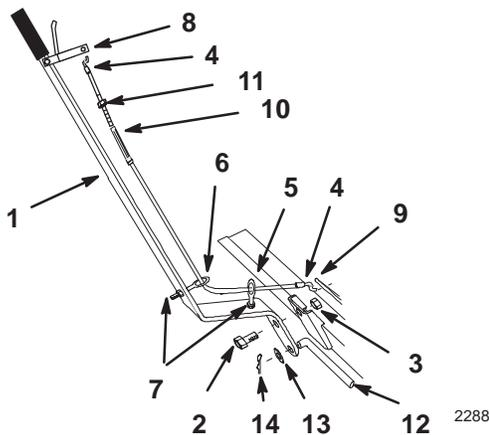

Figure 3
- Attach index lever to frame bracket with 1/2 x 1" bolt and 1/2" nut (Fig. 3).
- Install eye bolt and eyelets with (2) #10 washers and (2) #10 lock nuts(Fig. 3).
- Thread jam nut and turnbuckle onto cable and hook into handle lever(Fig. 3).
- Route cable through eyebolt and eyelet and attach Z end to back hole of index plate (Fig. 3).
- Adjust turnbuckle so the index pin is pulled out of channel when the release lever is squeezed, for easy side-to-side movement (Fig. 3). Tighten jam nut securely.
- Attach one end of control rod to index lever with 1/2" washer and hairpin cotter. (Fig. 3).